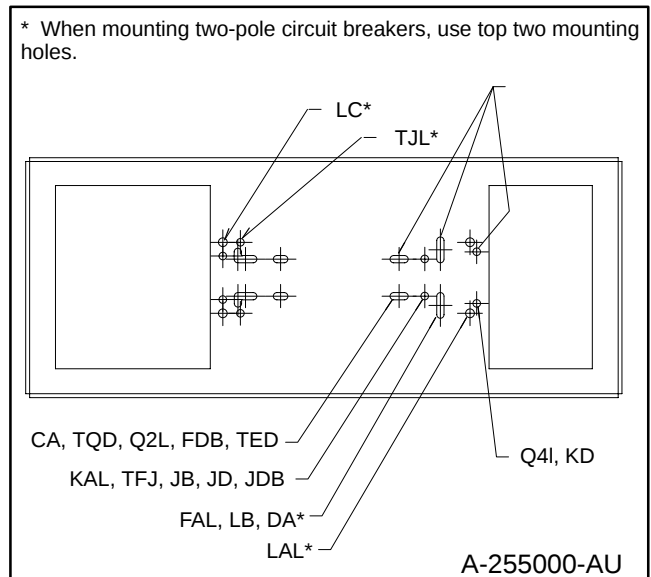

Figure 1. Mounting Bracket
3. Select holes in bracket to mount circuit breaker, see Figure 1. If shallow circuit breakers (Types CA, TQD, Q2L, FDB, or TED) are used, locate circuit breaker on nonflange side of bracket. For all other circuit breakers, locate circuit breaker on flange side of bracket.